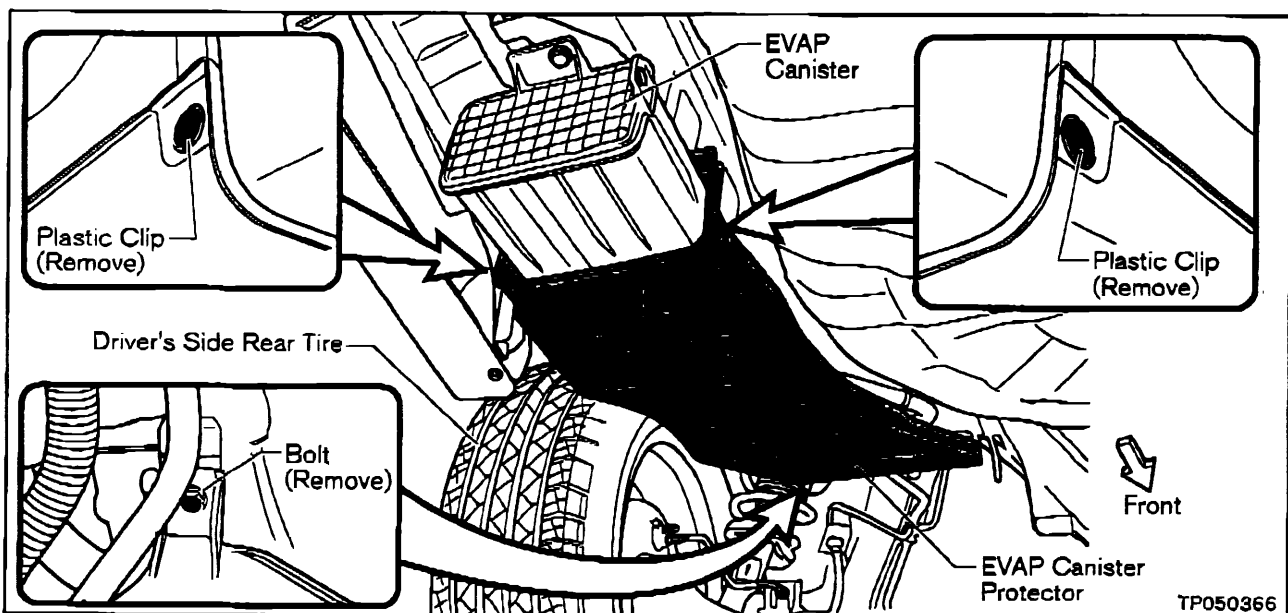

Figure 9
1. Remove two Plastic Clips and one Bolt and remove the EVAP Canister Protector (see Figure 9).